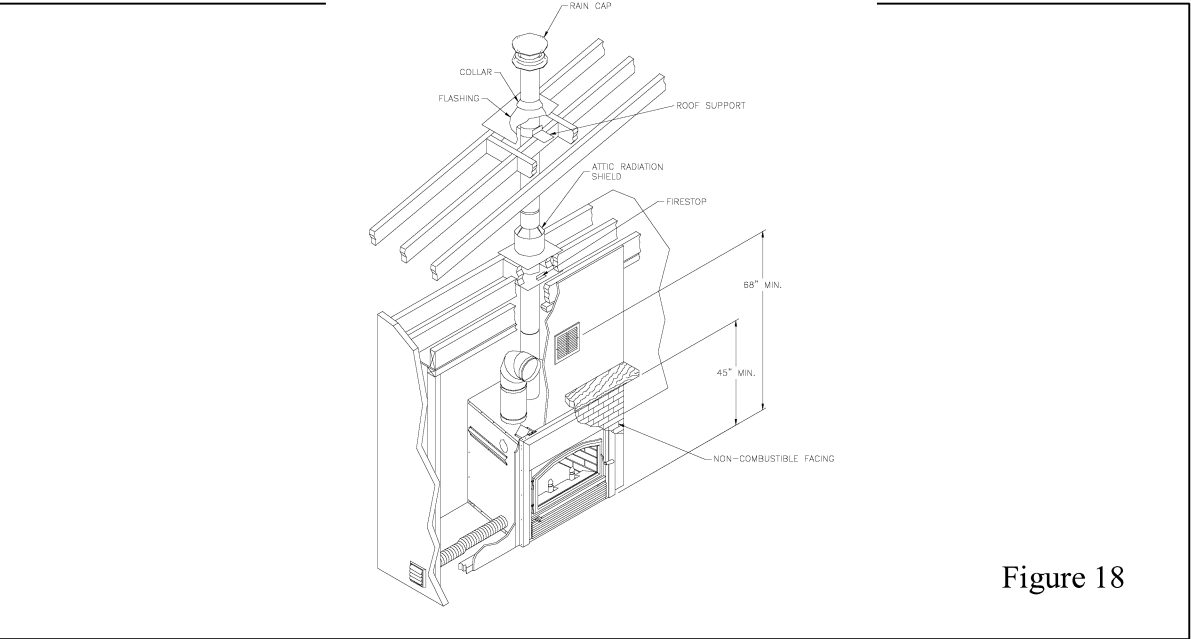

Figure 18
- c) The fireplace façade can be covered with non-combustible material (fig. 18).